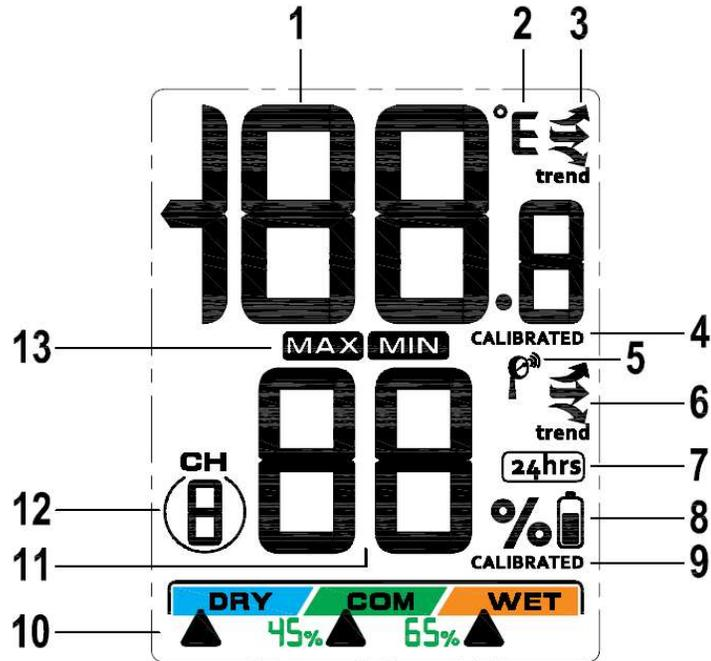

Figure 2
2. Verify the correct channel number (CH) and temperature units of measure (°F vs. °C) are on the display, as shown in Figure 2.